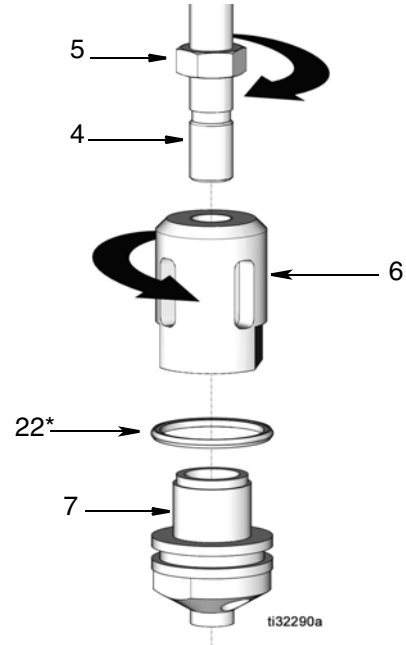

FIG. 11
4. Replace piston seal (22*) on valve housing piston (7) (FIG. 11).
5. Screw the connecting rod (4) into the valve housing (6) and adjust the ball travel as instructed in **Check Valve Adjustment** on page 12 Tighten nut (5) to 60 ft-lb (81.35 N•m) (FIG. 11).